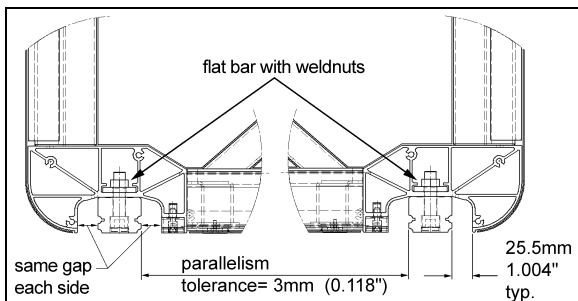

FIGURE 28: RAIL POSITIONING
*The rail is bolted to a flat bar on which weldnuts are mounted. The flat bar is inserted in the slide-out lower body extrusion and can be removed through the end cap (Figure 28).*
8. Adjust the rail position per Figure 28. For each rail, make sure the gap is the same on both sides of the rail. Use acetal blocks to inspect the gap.